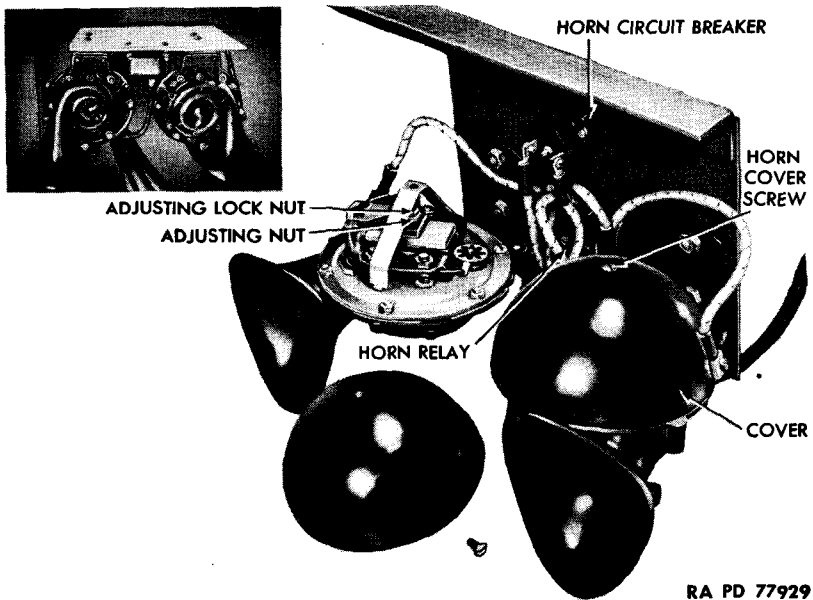

Figure 103 – Twin Horns
(1) **DESCRIPTION** (fig. 103). Two vibrator-type twin horns are mounted on the cab beneath the battery box. The high pitch of one is
(1) **DESCRIPTION** (fig. 103). A standard magnetic relay switch is attached to the horn support bracket between horns, and serves to supply current directly from ammeter to horns when the horn button is depressed.
are attached to cranking motor switch bracket under floor board in front of operator's seat (fig. 51); buzzer and fuel gage circuit breaker are attached to center of cowl over generator regulator (fig. 49); horn circuit breaker is attached to horn supporting bracket above horns (fig. 103); light circuit breaker is an integral part of the regulator which is attached to cowl dash at center (fig. 49). All circuit breakers are of the thermal type. Heat produced by passage of excessive current due to a short circuit causes breaker to open and close intermittently until the short circuit is eliminated.